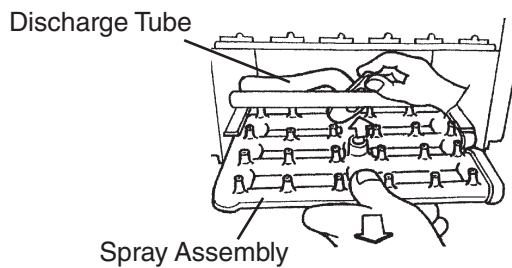

Fig. 39
7) Disconnect the discharge tube from the spray assembly, then slide out the spray assembly. See Fig. 39.